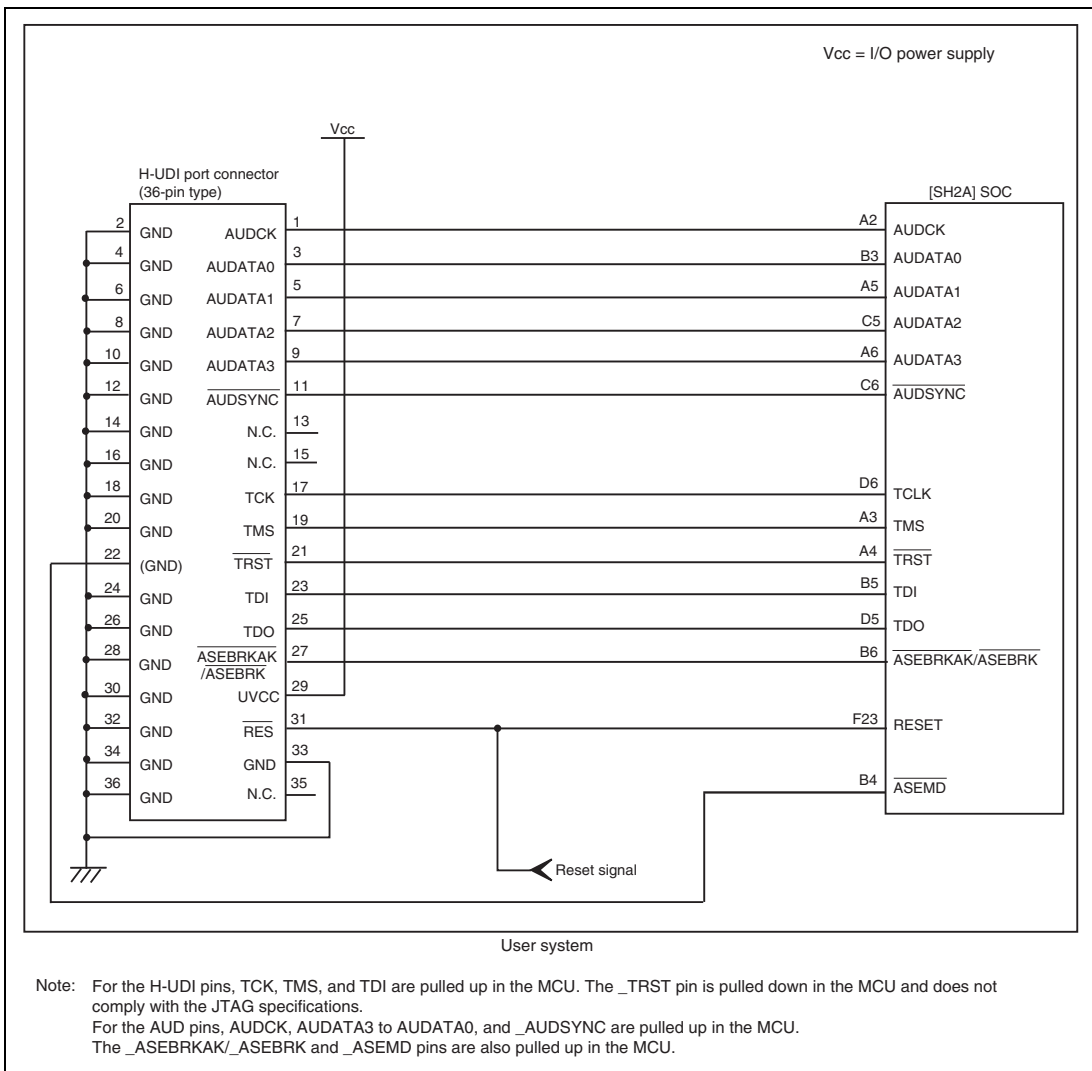

Figure 2.2 Recommended Circuit for Connection between the H-UDI Port Connector and MCU when the Emulator is in Use (36-Pin Type)
Figure 2.2 shows a recommended circuit for connection between the H-UDI and AUD port connectors (36 pins) and the MCU when the emulator is in use.
- (1) When the emulator is used: `_ASEMD` = 0 (ASE mode)
- (2) When the emulator is not used: `_ASEMD` = 1 (normal mode)Figure 2.2 shows an example of circuits that allow the `_ASEMD` pin to be GND (0) whenever the emulator is connected by using the user system interface cable.
7. The resistance values shown in figure 2.2 are for reference.